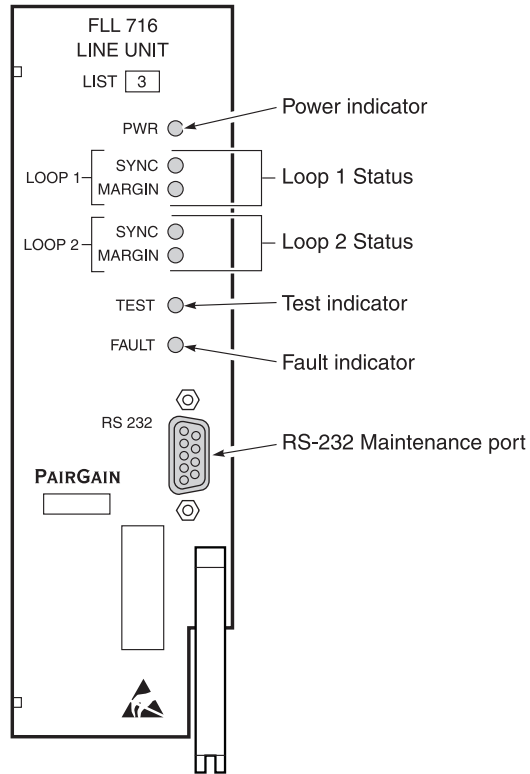

Figure 1. FLL-716 List 3 Front Panel
Figure 1 shows the FLL-716 front panel. Table 1 lists the indicators and indicator states for the FLL-716 front panel LEDs.
5.2 The RS-232 maintenance port (Figure 1) provides access to provision and monitor the performance of the PG-Flex system using an ASCII terminal (see Section 9). Installation of a PG-Flex system does not require the use of an ASCII terminal.